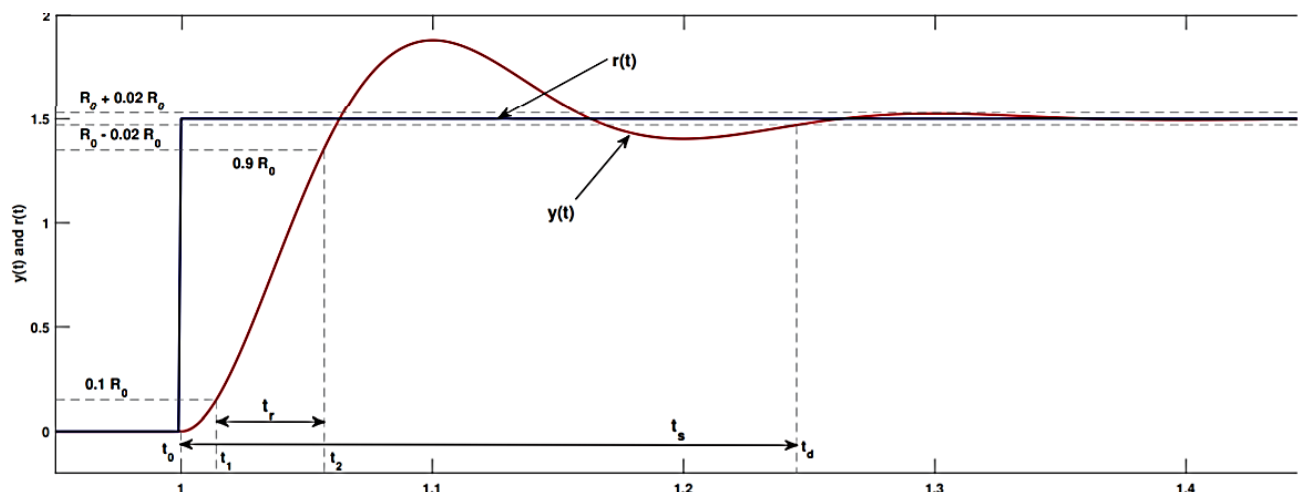

Figure 2: Response of second order system to step input showing rise time and settling time
- **10% Rise Time ( $t_r$ )** is the time required for the response waveform to go from 0.1 of the steady-state value to 0.9 of the steady-state value. In Figure 2, the rise time is
- **2% Settling time ( $t_s$ )** is the time required for the transient's damped oscillations to reach and stay within  $\pm 2\%$  of the steady-state value. In Figure 2, the settling time is